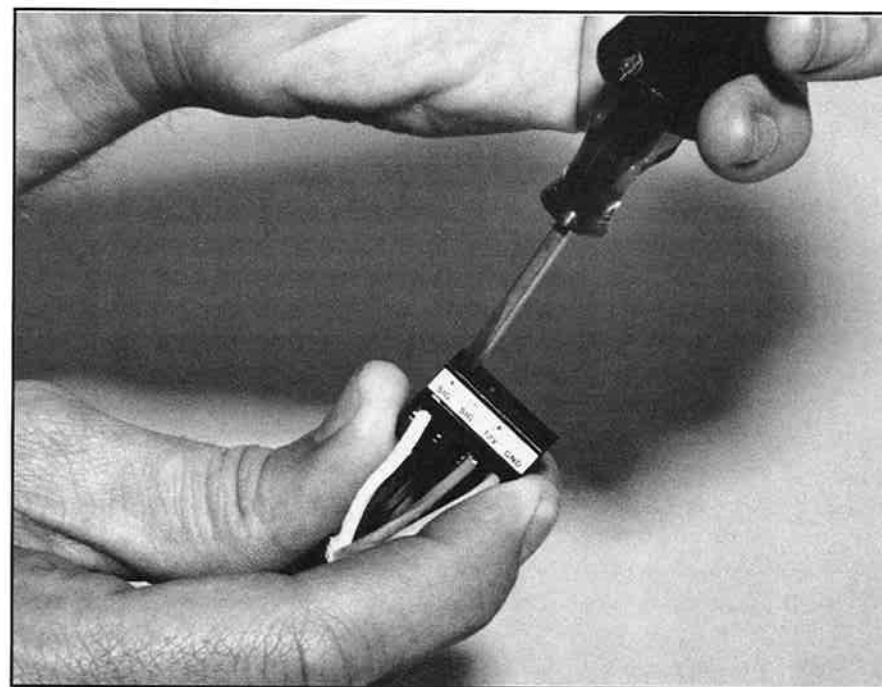

Figure 5. Inserting wire into the connector
- 5 Wire the connector according to the label on the connector. To hold the wire in the connector, insert the stripped end of the wire into the proper slot. Turn the corresponding screw clockwise until tight (fig. 5). Repeat this step until all four connections are made.